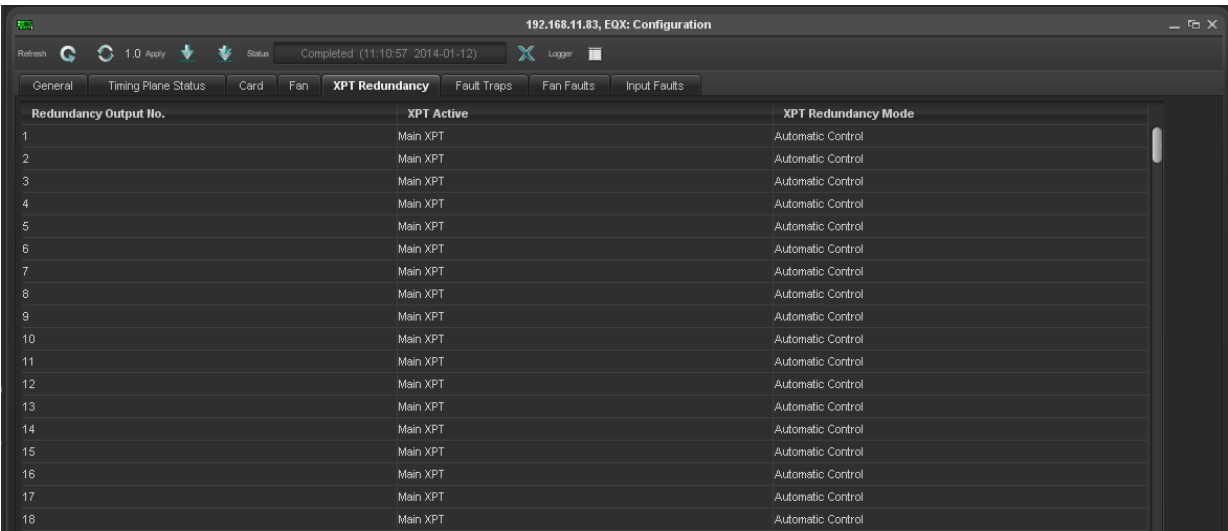

Figure 5: EQX-FC Config in VLPro
- Under XPT Redundancy tab, the second column shows whether the output is on main or redundant path. Shown in Figure 5: